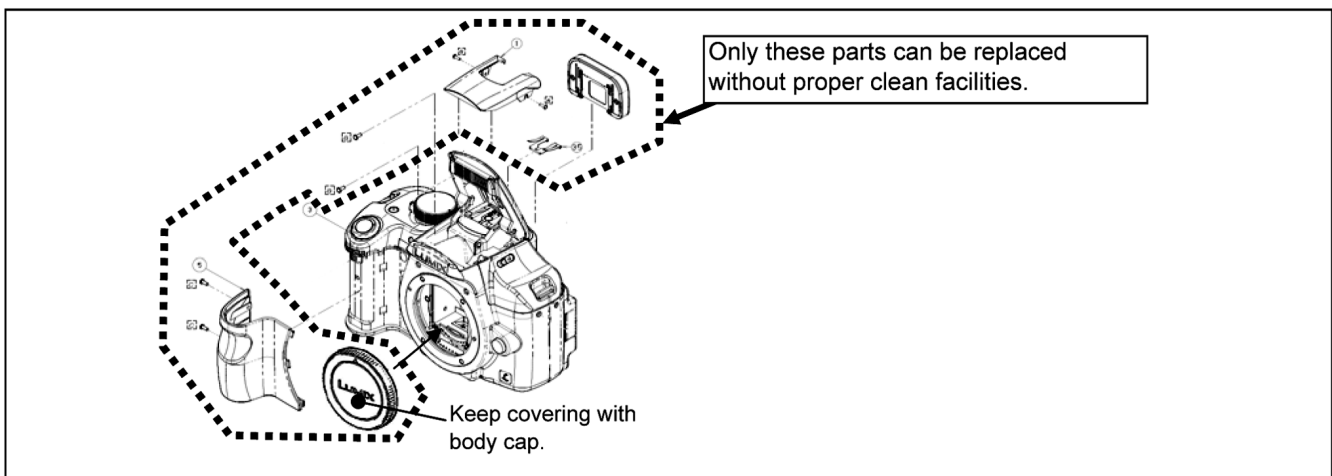

Fig. S1
- a. Disassemble / Assemble procedure for other than the part showing in Fig.S1.
- c. Parts list for other than the part showing in Fig.S1.